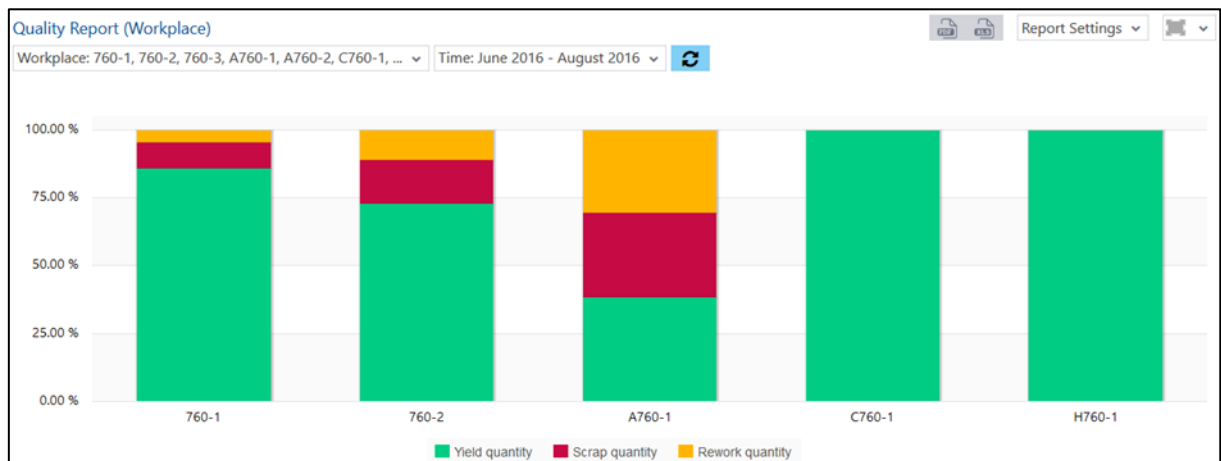

Fig. 101: Quality report (workplace) as column chart
- Quality report (workplace) as column chart (fig. 101):